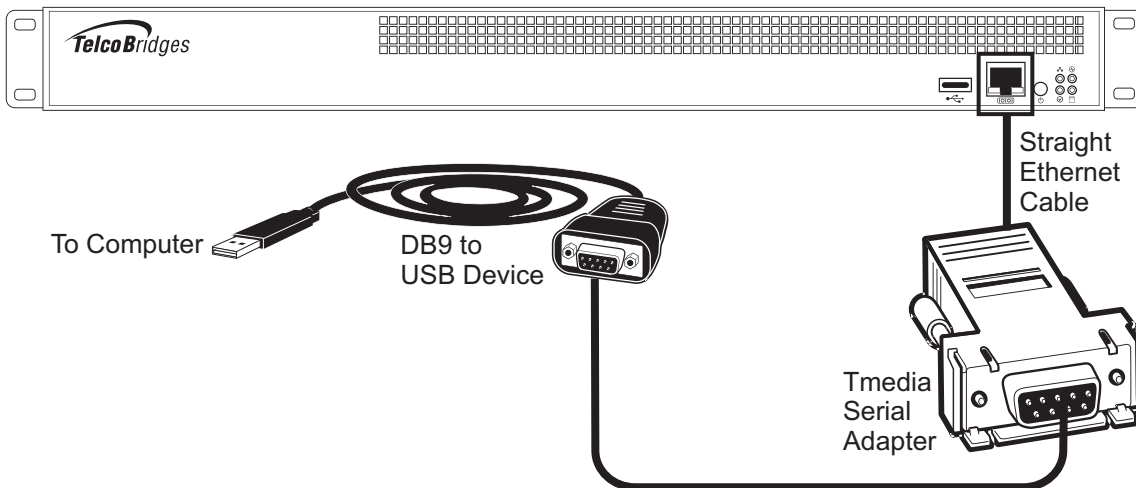

Figure 3.2 Conceptual View of a Serial Connection from the 800 Series Gateway to a Computer
2. If your computer’s serial port features a DB9 connector, use the Tmedia serial adapter supplied with your 800 series gateway. If your computer’s serial port features a USB connector, you will need to provide a USB to DB9 adaptor. Refer to figure 3.2 on page 40.